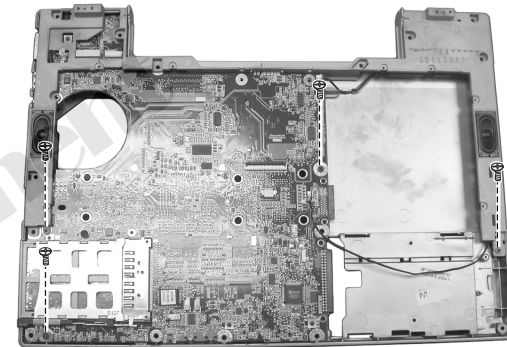

Figure 2-28 Remove the four screws
5. Remove the four screws and lift the system board from the housing. (Figure 2-28)